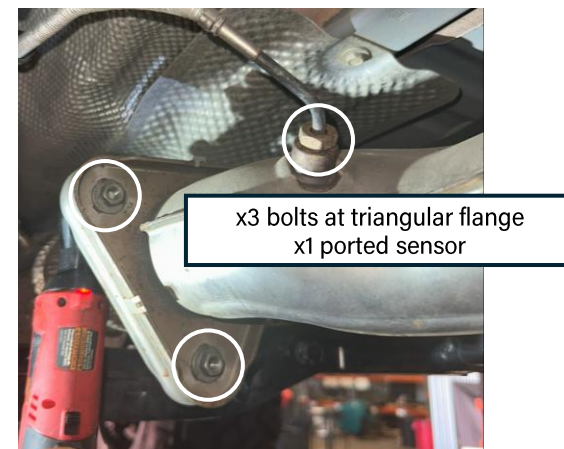

Figure 4a: Flange to be removed and sensor
- Unbolt the x3 nuts holding the exhaust flange at the rear section (Figure 4a)